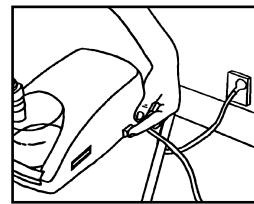

Fig 6
12. Switch on the HC220 Series by pressing the power switch on the right hand side. (See Fig. 6)